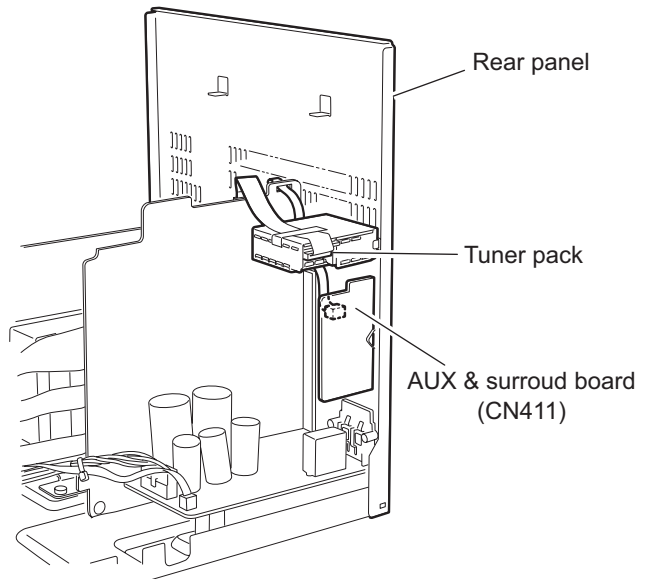

Fig.19
- (1) Disconnect the card wire from the connector **CN1** on the tuner pack assembly on the right side of the body.
- (2) Remove the two screws **H** on the rear panel on the back of the body.
3.1.8 Removing the AUX & surround board (See Fig.19, 20)